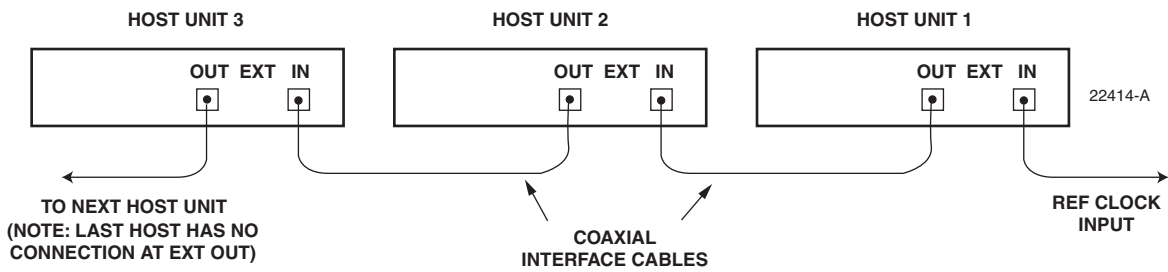

Figure 16. Configuring EXT REF Connections with Multiple Host Units
- 5. Repeat steps 3 and 4 for each additional HU that is added to the network. A diagram of typical EXT REF interface connections is shown in Figure 16.